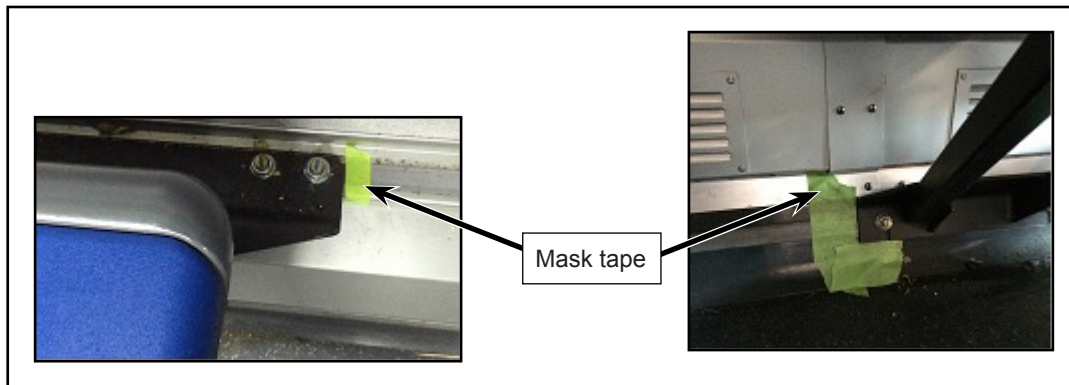

Figure 8 - Typical View of Applying Masking Tape to Brackets
2.1.1. Line up masking tape to top and bottom bracket (see Figure 8).